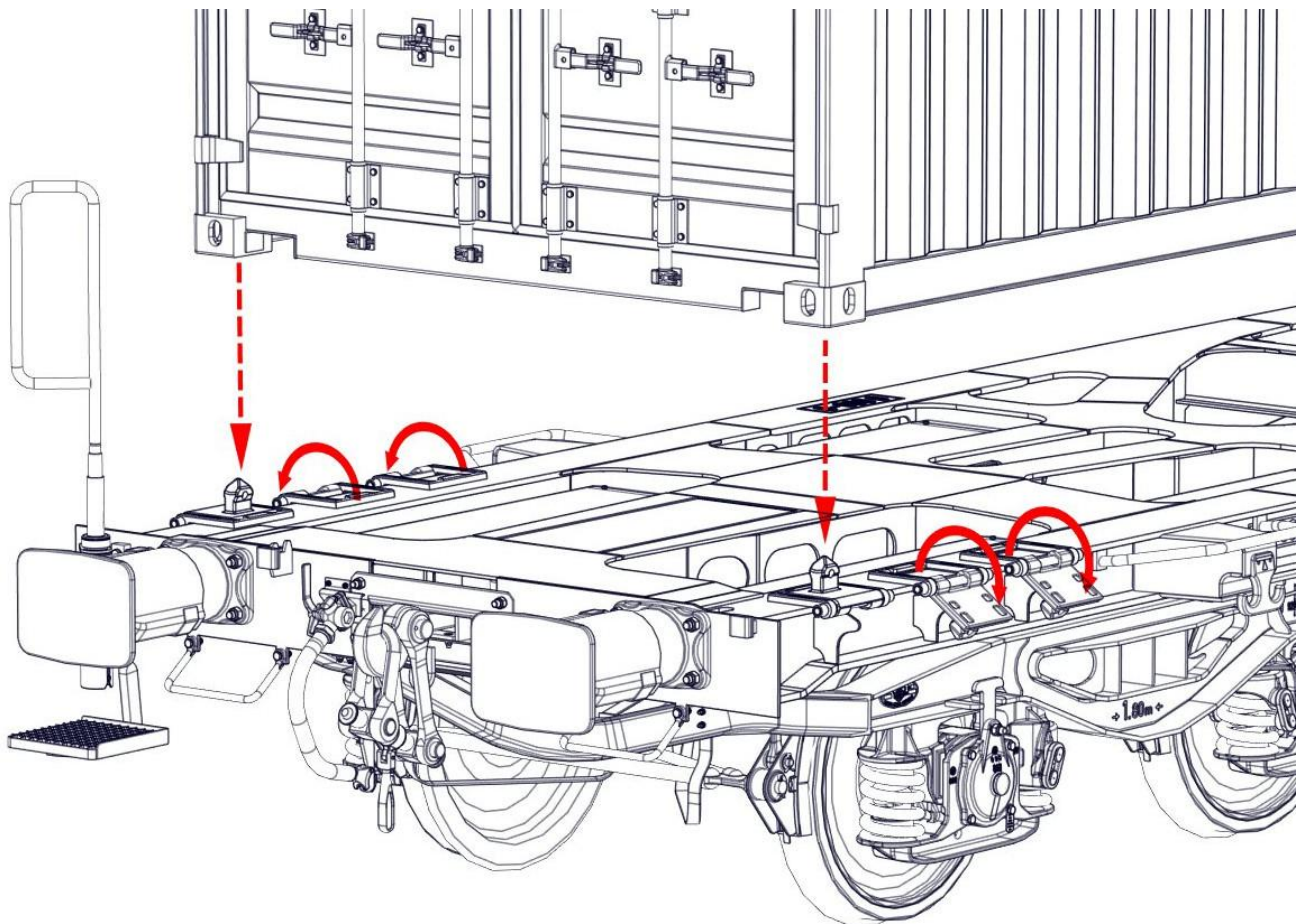
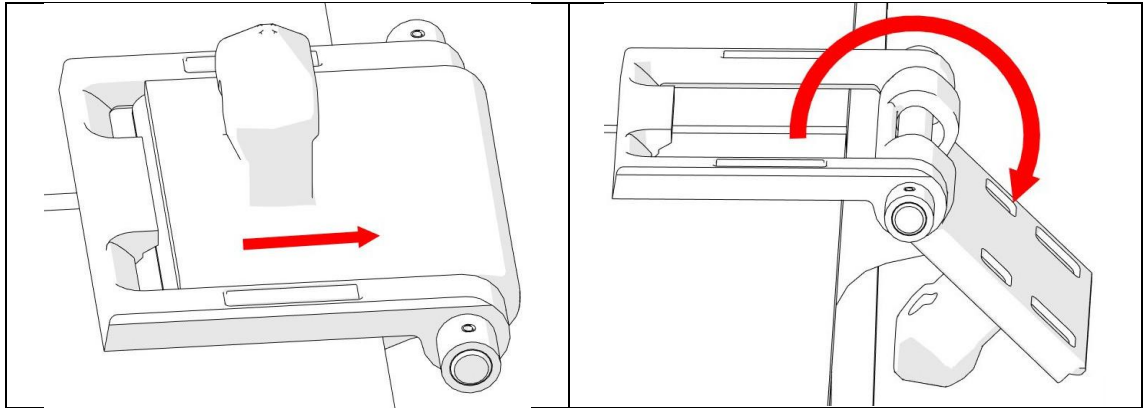

Figure 1
Figure 2
- the hinged locking pins (spigots) must be in the correct position, i.e. the hinged locking pins on which the container or swap body are seated must be properly fitted into the frame and the other pivots must be swung away so as to avoid unwanted collision with the frame of the container, see Fig. 1 and Fig. 2. There shall be no objects or dirt on the bearing surface of the locking pins, the frame of the wagon and the lower frame of the container or swap body.